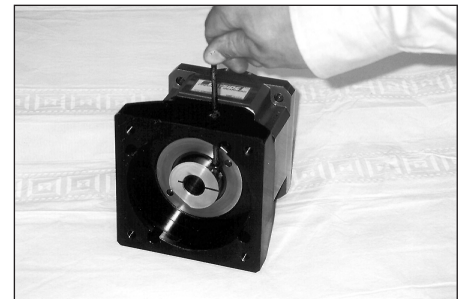

Fig. 2
- Step 3.** Insert the supplied Allen wrench through the pinion bolt access hole into the head of the pinion bolt. This bolt should be loose. Do not tighten it. (Fig 2) NOTE: If the motor shaft has a flat, rotate the motor shaft so that the flat will be opposite to the pinion bolt.